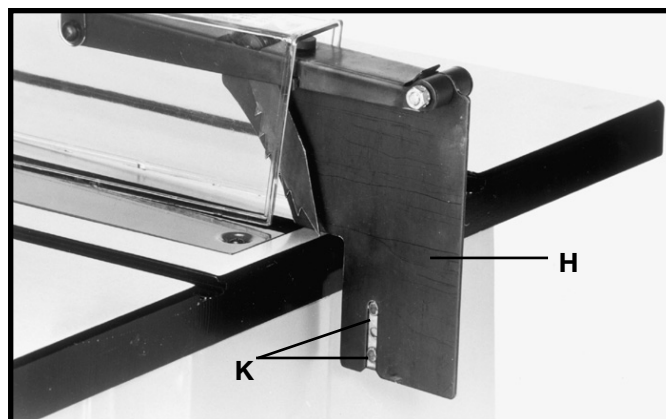

Fig. 13
6. Position the splitter (H) Fig. 13, on the splitter support bracket as shown, making certain the two protrusions (K) on the splitter support bracket are inside the slot of splitter (H).